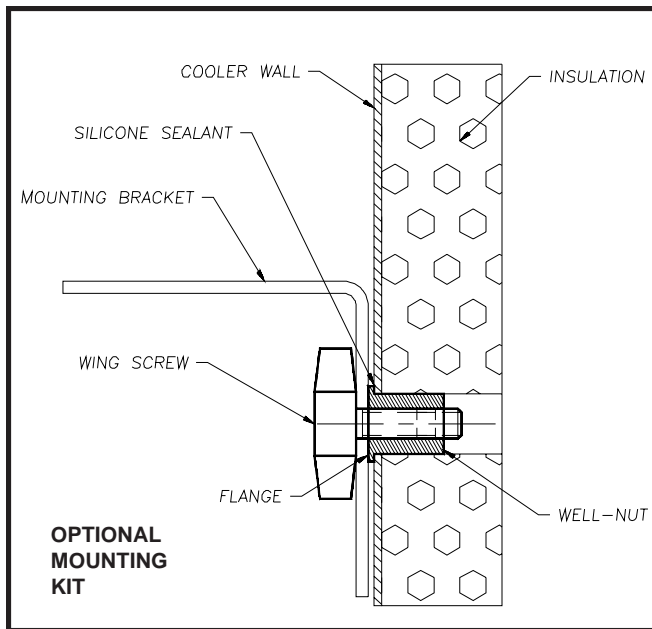

Figure 3
2. Drill four (4) 1/2 inch diameter holes into cooler wall 3/4 inch deep. See Figure 3.